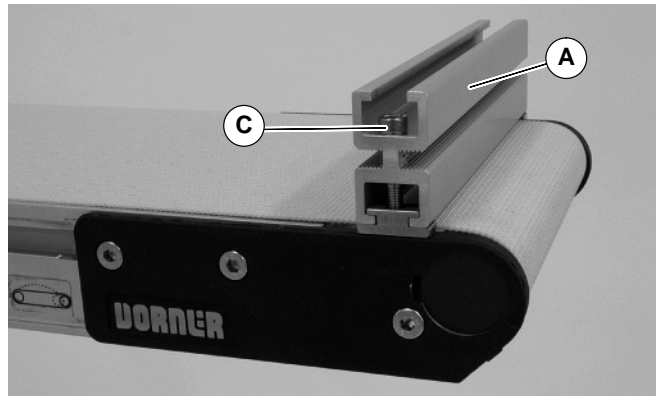

Figure 3
3. Install end stop with spacers (A of Figure 3) on end of conveyor with M5 screws (CC). Tighten screws to 60 in-lb (7 Nm).